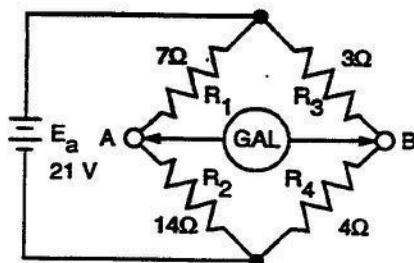

Figure 2-39. Unbalanced bridge circuit.
**Unbalanced bridge circuits.** In the examples above, we worked with a balanced bridge circuit. Let us now examine the characteristics of an unbalanced bridge circuit. The bridge circuit shown in figure 2-39 is an unbalanced bridge circuit. With your understanding of balanced bridge circuits, you can already see, by looking at the value of the resistors, the bridge is in an unbalanced condition. A more positive way to determine whether the bridge is balanced or unbalanced is to use the ratio formula: